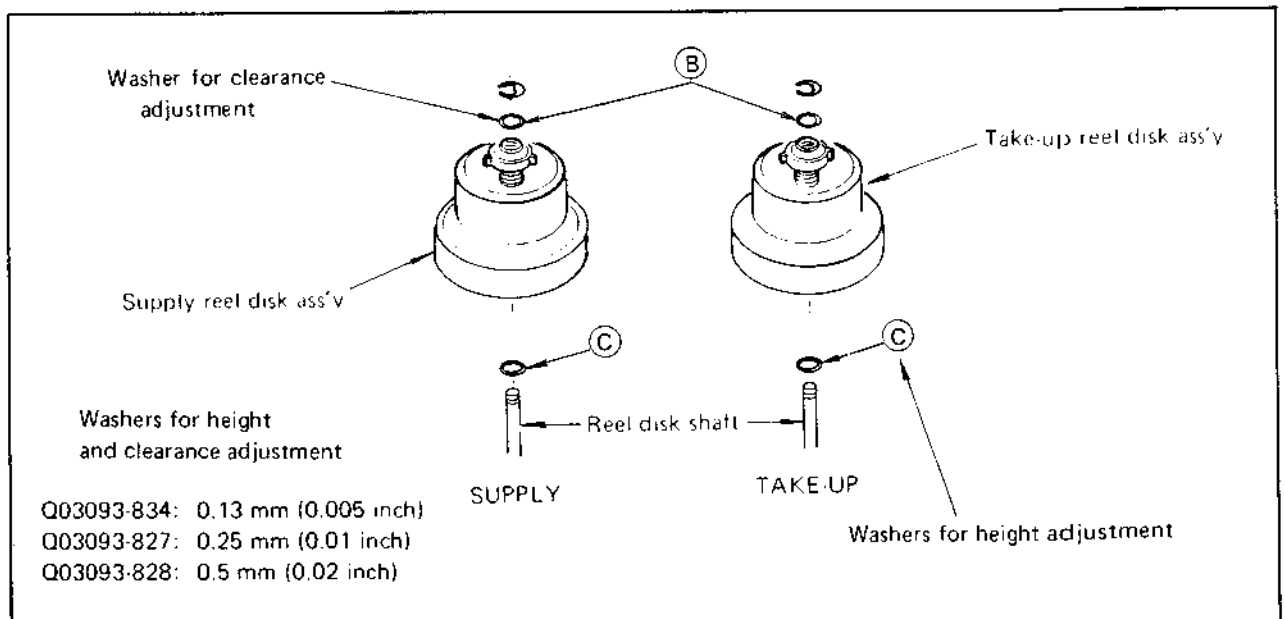

Fig. 4-16
5. If too low, change the position of washer (B) (Fig. 4-16) to the bottom of the disk (so that both washers (B) and (C) are at the bottom).
6. Conversely, if too high, change the position of washer (C) to the top of the disk (so that both washers (B) and (C) are at the top).